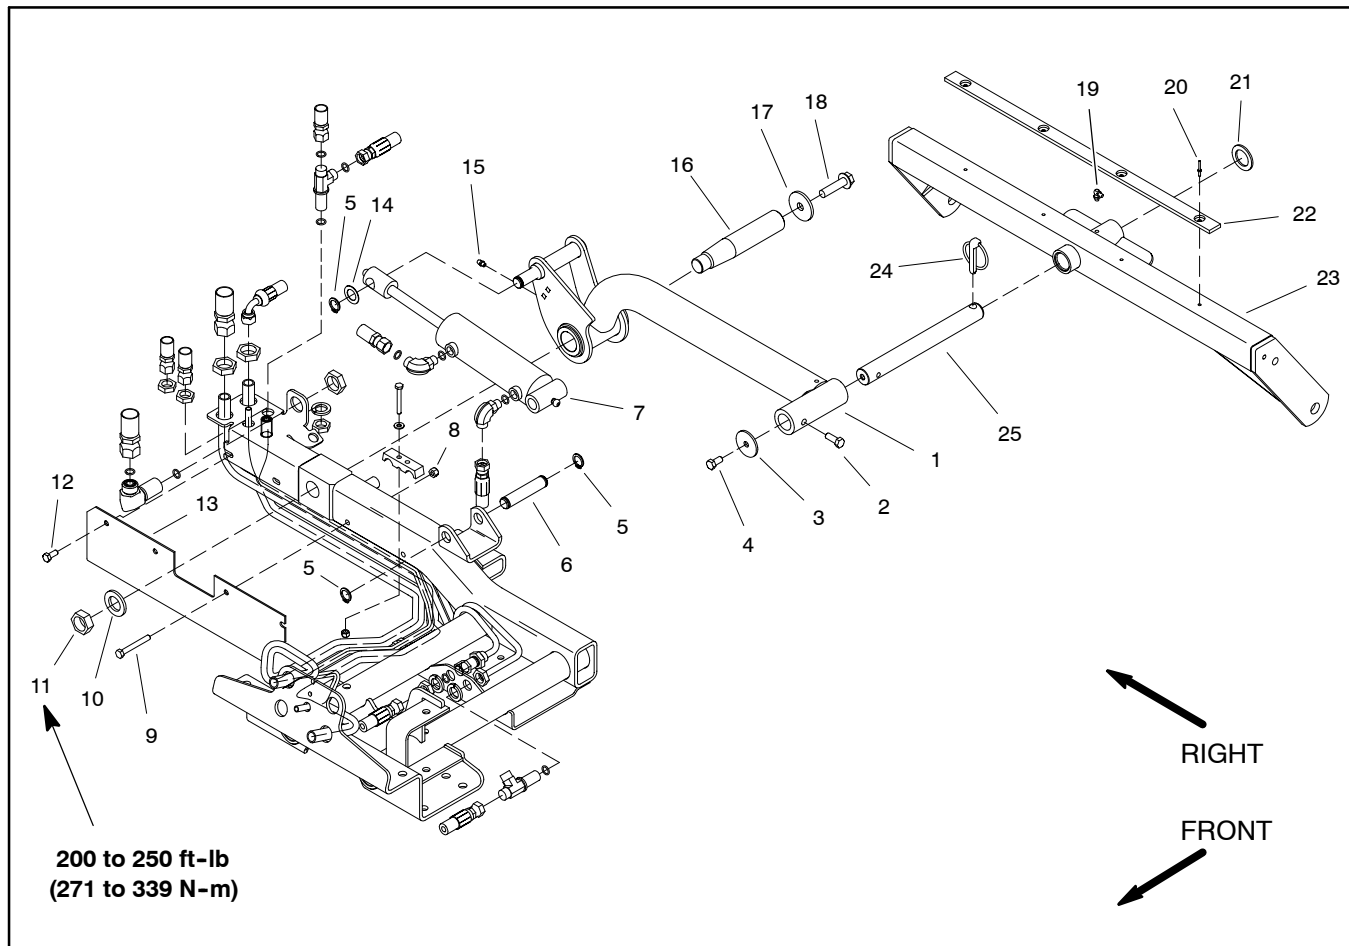

Figure 65
Removal (Fig. 65)
3. Remove rear lift cylinder from the frame and lift arm using Figure 65 as guide.
Installation (Fig. 65)
2. Install rear lift cylinder to the frame and lift arm using Figure 65 as guide.